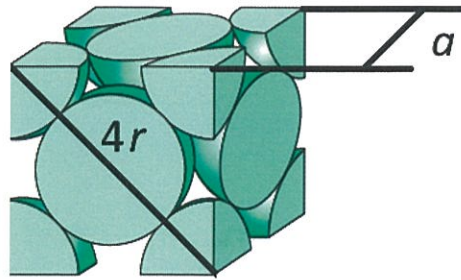

Figure 2. FCC unit cell in which a is the lattice parameter and r is the atomic radius.
- iii. Material A has an FCC crystal structure and an atomic radius of 0.1278 nm. Assume the atoms are hard spheres that touch each other along the face diagonals of the FCC unit cell as shown in Figure 2.